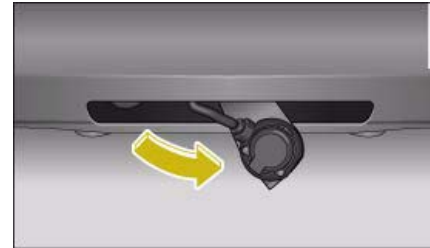

Fig. 244 Area below rear bumper: Folding up the socket
- Then swivel the socket up ⇒ fig. 244 as far as it will go. The mounting fixture will be closed automatically.